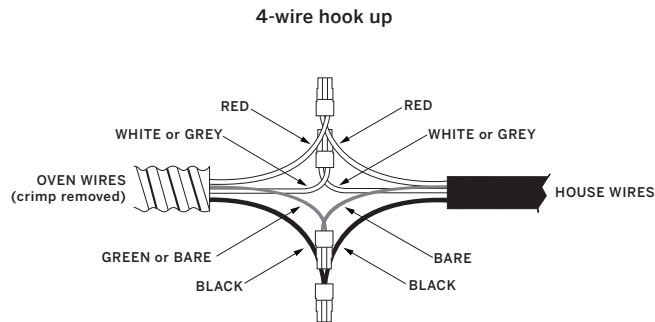

FIGURE 4: 4-wire hook up.
- ❑ 6. The electrical supply should be a 4-wire single-phase AC. Connect the red, black, white, and green ground oven wires to the corresponding colors of the electrical supply wires. See Figure 4. Route flex conduit to allow temporary removal of oven for service.